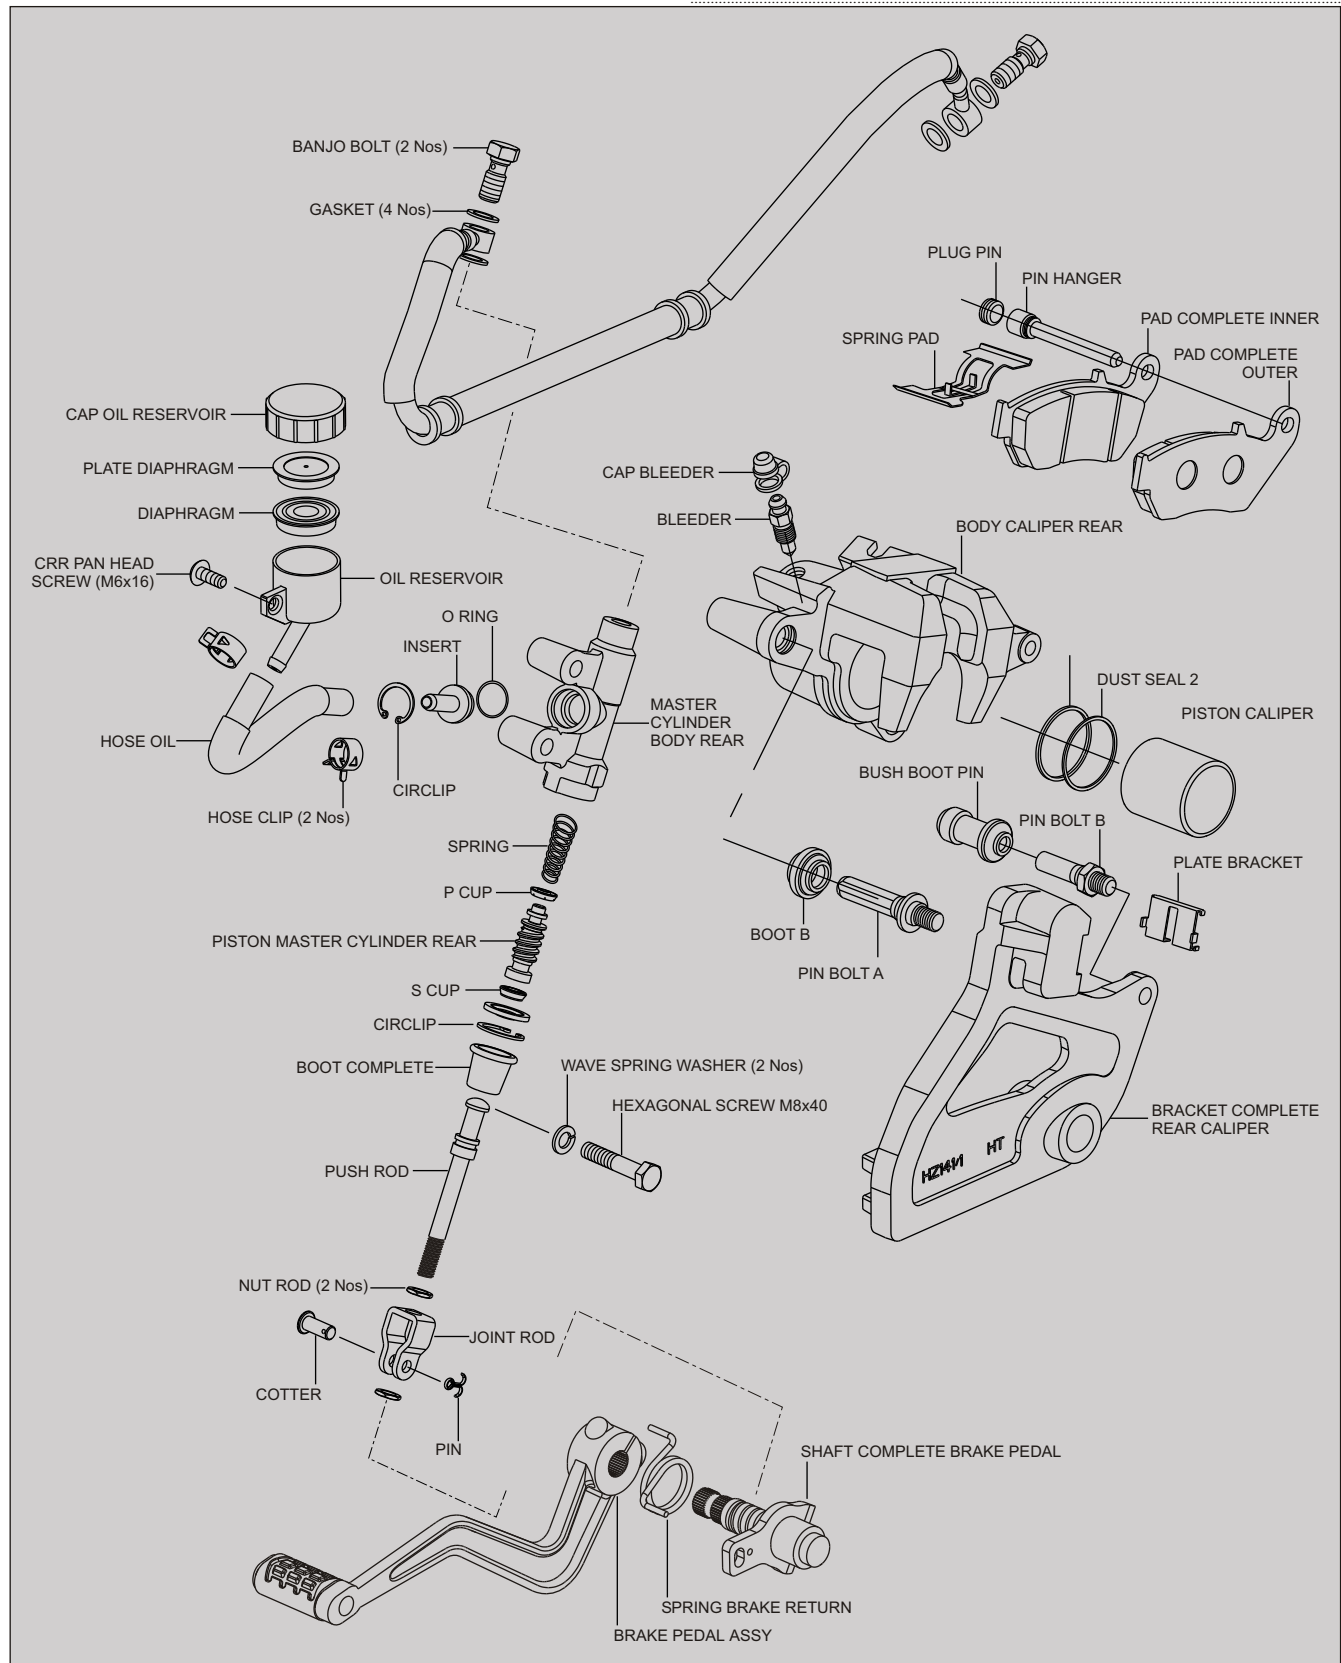

Fig. 6.120
- Reassemble master cylinder in the reverse order of dismantling. Refer exploded view for assembly details. (Fig. 6.120)